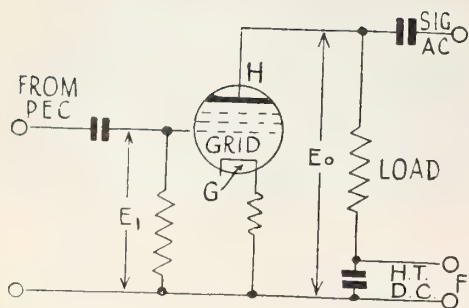

FIG. 3 (left). Circuit of first-stage amplifier. FIG. 4 (right). Electro-mechanical equivalent of Fig. 3.
In Fig. 3 we have the first stage of the amplifier. The circuit is more complicated than that of the p.e.c., but it has many features in common. Again, there is the source of direct current (F), there is a cathode emitting electrons (G), and an anode collecting them (H). There is in the static state a steady direct current flowing out of the h. t. source (F) into the cathode, through the various grids of the valve to the anode (H) and down through the load resistance back to the h. t. source.